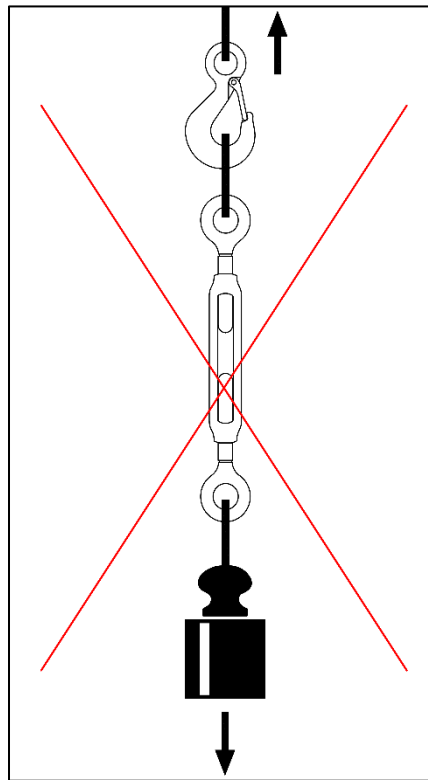

Fig. 5
The turnbuckle can also be used for lifting operations, if it is not a single pull (par.10 fig.5). In this conditions, infact, the load can rotate freely, generating the risk that the terminals will unscrew until escape from the turnbuckles, with consequent fall of the load.
- DO NOT use the single pull lifting accessory (Fig.5);